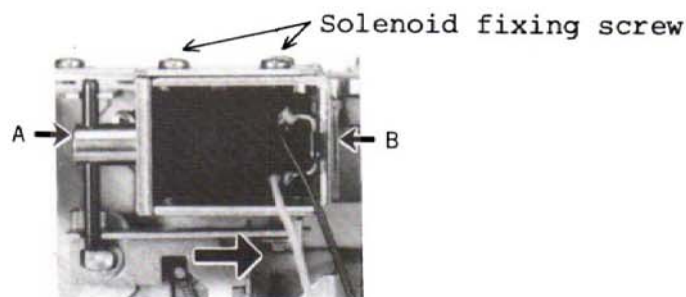

Fig. 13 (Solenoid Part)
- c. Put the solenoid between fingers in the A and B direction shown in Fig. 13 and place it as much close as possible towards direction.